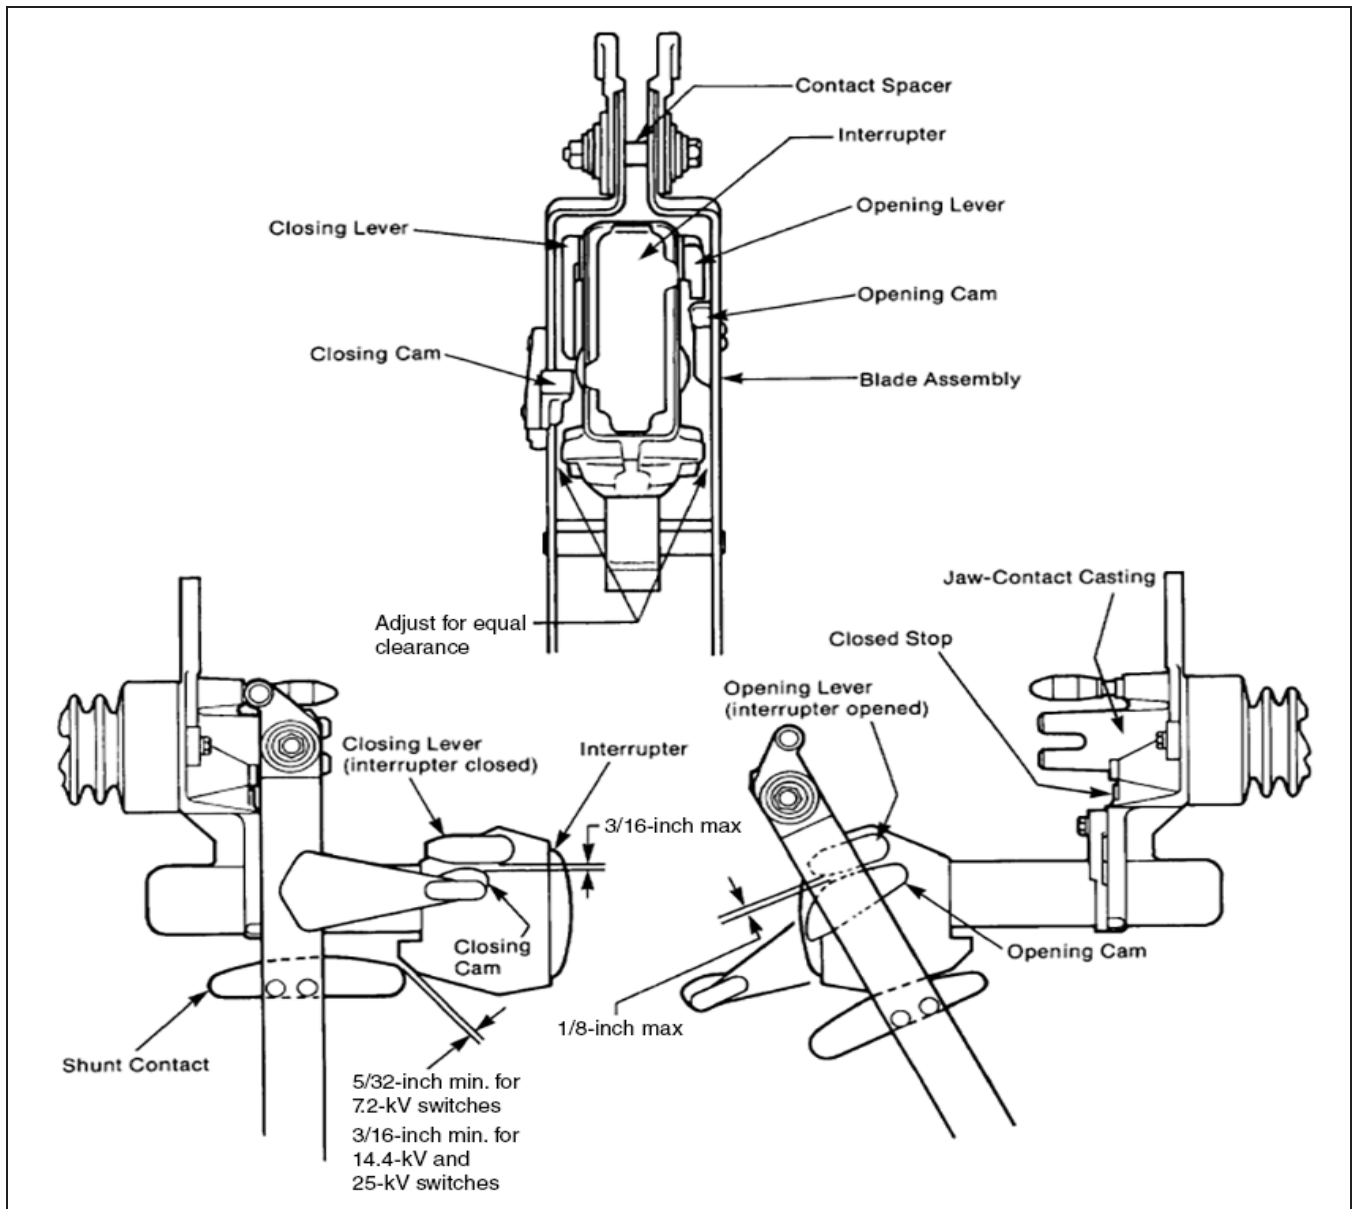

Figure 26. Operation checkpoints.
- (a) With the operating handle as far as it will go in the closing direction, each switch blade is against its closed stop, and each switch-pole toggle mechanism lies against its toggle stop as shown in Figure 26 and Figure 4 on page 11. The outboard bearing crank arm(s) must be in the over-center toggle position and lie against the stop bolt(s).
- (a) The interrupter must lie in a plane parallel to the sweep of the blades, and the blades must pass over the interrupter with approximately equal clearance on both sides as shown in Figure 26.
- (b) As the blade moves in the closing direction, clearance between the blade opening cam and the interrupter opening lever must be within the limit shown in Figure 26.
- (c) In the fully **Closed** position, clearance between the blade closing cam and the interrupter closing lever must be within the limit shown in Figure 26. Also, the clearance between the blade shunt contact and the interrupter housing must be as shown in Figure 26.